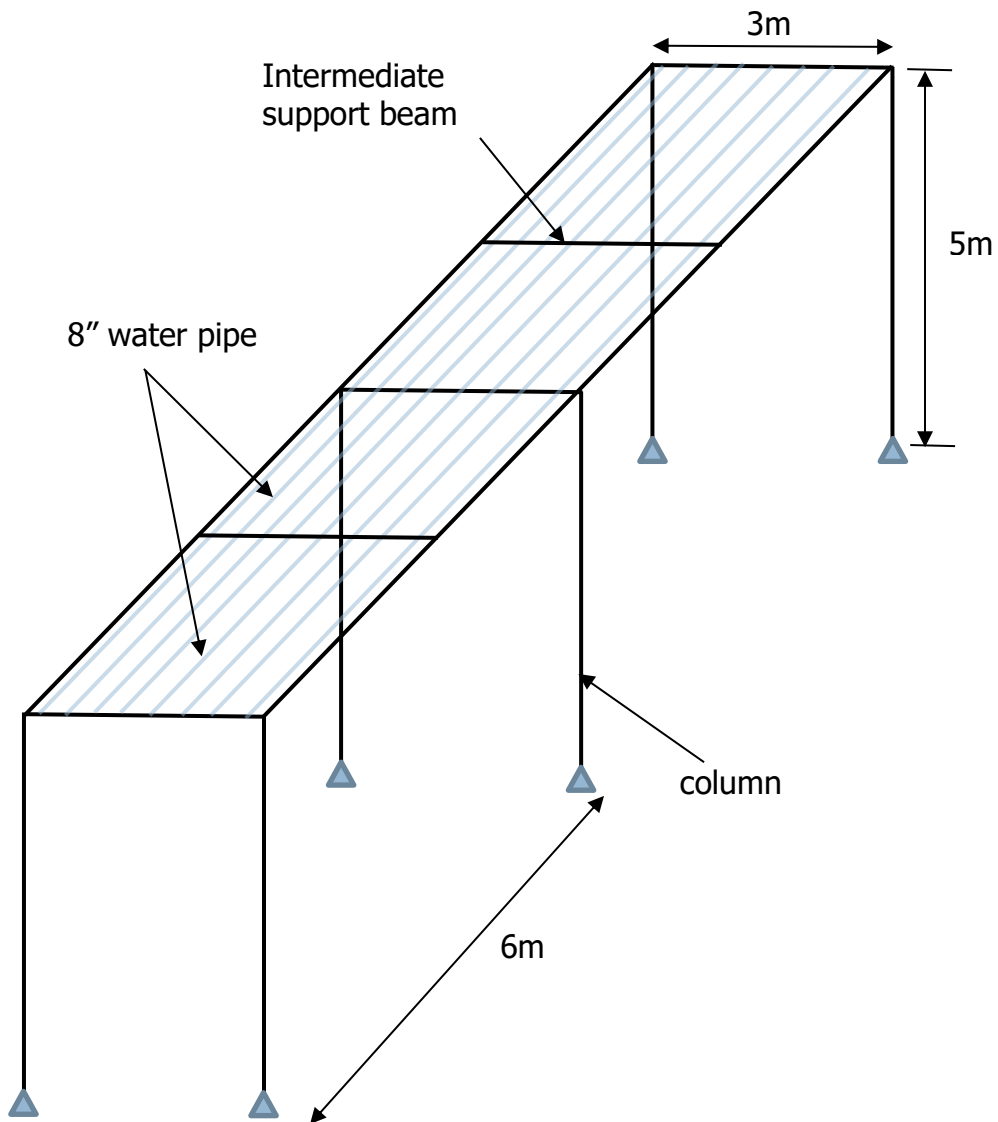

Figure Q1-1
A segment of a long pipe rack system is shown in Figure Q1-1. The main structural system comprises portal frames spaced at 6m centre to centre with intermediate pipe support at 3m centre-to-centre and connected with two tie beams. The structural steel beams that support the eight (8) numbers of 8-inch water pipes are spaced at minimum 150mm edge-to-edge. The 8-inch diameter water pipes have a loading of 1.45kN/m run when the pipe rack system is in operation. The frictional force at frame is 15% of the pipe load and the pipes will be operated under an anchor force of 5 kN/m² at stressed condition at frame only. The maintenance load is 0.75 kN/m² .
The arrangement of pipe rack system with dimensions is shown in Figure Q1-1. The section of the pipe supporting beams are UB203×165×36 kg/m and columns UC203×203×60 kg/m of 5m height. The columns are pin connected via baseplates to pile caps. The main pipe supporting beams are welded to the column. The intermediate pipe supporting beams are pin-connected to the tie beams. The specification states that the pipe rack system shall be designed to cater for any configurations in the use of the pipes during operation, testing and maintenance periods. All steel sections are grade 355 N/mm². Steel section properties are provided in Annex.